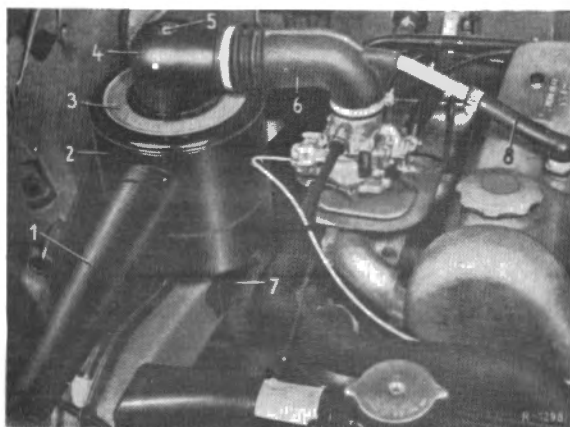

Fig. 09-1/3
1. On the air intake silencer upper part of Model 190 c detach the hose band on the carburetor (Fig. 09-1/3), on Models 220 b and 220 Sb remove the rubber cuff (3) (Fig. 09-1/4), and on Models 220 SEb and 300 SE pull off the air hose (6) (Fig. 09-1/5).
2. After loosening the snap catches, on Model 190 c after loosening the hexagon nut (5), remove the upper part of the air intake silencer and take out the air filter element.